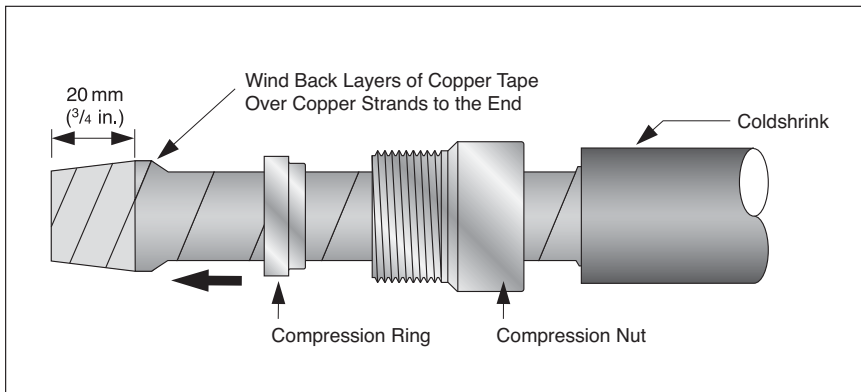

Figure 23: The termination coupling is fitted to the downconductor ready for the main coupling body to be fitted.
16. Rewrap the outer double layer of copper tape into place over the copper strands. Push the compression ring back up over the wrapped copper strands and up against the cone, (see figure 23).